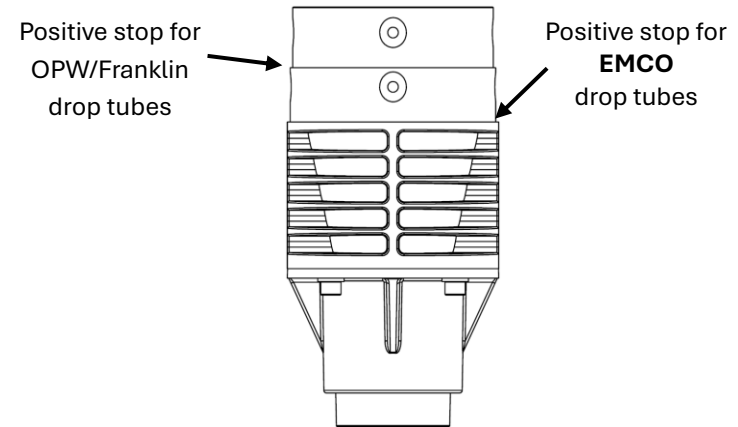

Figure 2 – Diffuser Attachment Height, Dimension B
2. Diffuser attachment height (Dimension B – Figure 2) determines overall tube cut length. Because the A0025 Diffuser is compatible with multiple drop tubes on the market, Dimension B depends on which drop tube the diffuser is installed on.